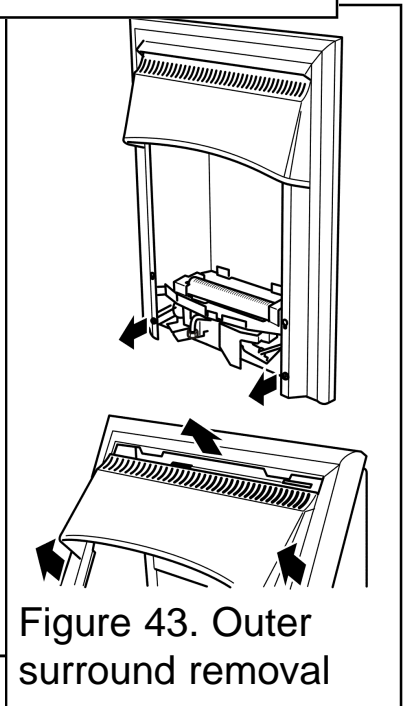

Figure 43. Outer surround removal
3. Remove the two screws securing the bottom of the front surround to the sides of the convection box. See figure 43.